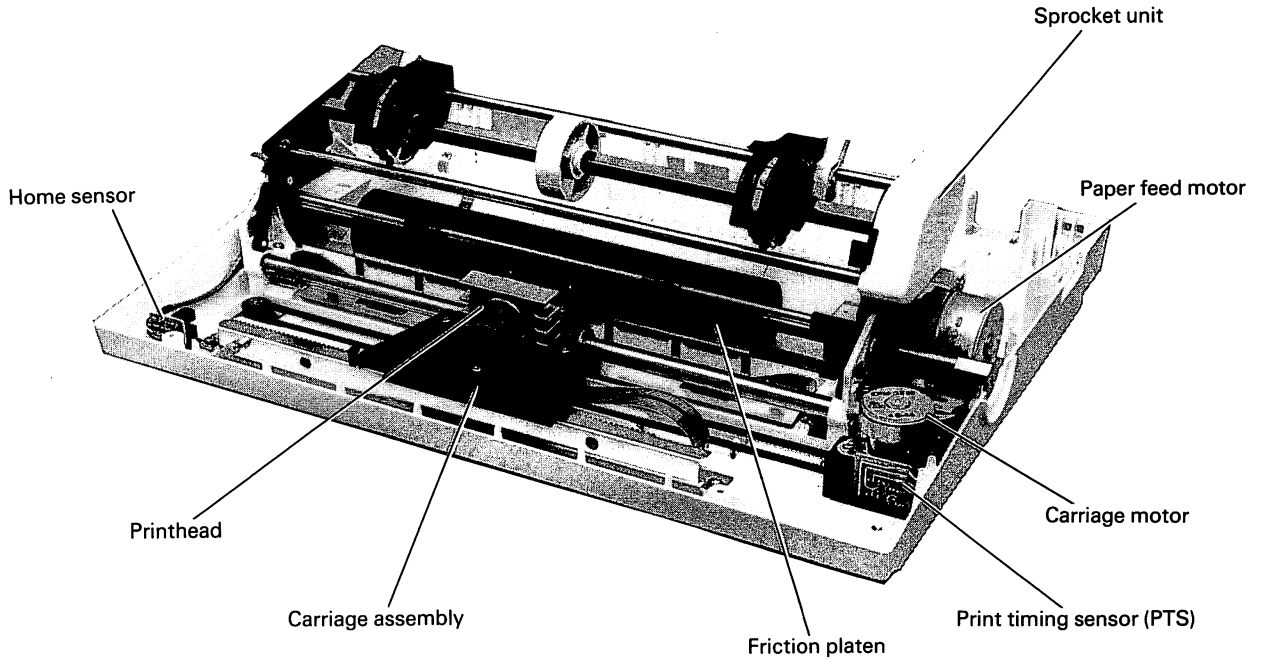

Fig. 1-12. Printer Mechanism
1.4.4 Printer Mechanism (Fig. 1-12)